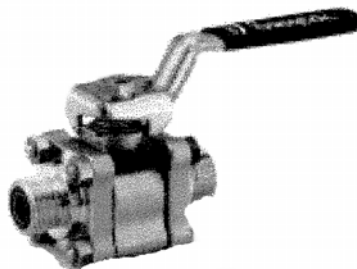

Figure 6-2.  $\frac{1}{4}$ -Inch Isolation Ball Valve (B-62TF4)
- c. Apply a light coat of lubricant MIL-PRF-27617 Type III, install a new backup ring (3) and O-ring (4), and secure as shown above.
- a. Install valve (1) on panel and secure with lock washer, and panel nut. Install lanyard, handle, handle nut, retaining ring, and cap.
- b. Using new O-rings (2), apply a light coat of lubricant MIL-PRF-27617 Type III and install tubing connector nuts that secure the valve in the system.
1.  $\frac{1}{4}$ -Inch Isolation Ball Valve (B-62TF4) (see Figure 6-2). The following  $\frac{1}{4}$ -inch valves are manufactured by Whitey Co. and distributed by Swagelok. These valves are generally hull isolation valves for sensing, sampling, and vent valves. These are Swagelok Series 60 valves and are maintained in accordance with the procedures listed in sections 6-6.2.1 through 6-6.2.3.